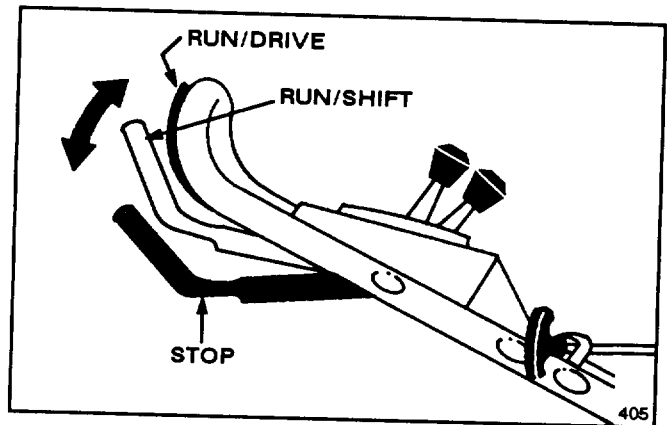

Figure 7
5. WHEEL TRACTION OPERATION (Fig. 7)—Lift control bar to RUN/SHIFT position. Move ground speed control to desired setting and squeeze control bar against handle to drive. Ground speed varies depending on space between control bar and handle.